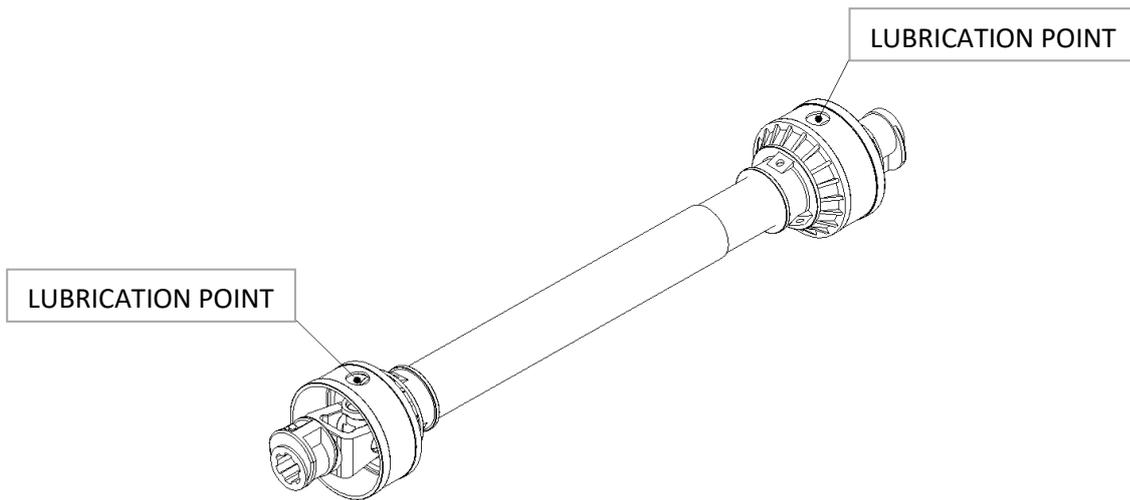

Figure 8.2 - Example of a transmission cardan shaft
- **Cardan shaft:** The Cardan shaft (Figure 8.2) is one of the components you should check every day you work with the machine and, in this particular case, lubricate properly at the same intervals.